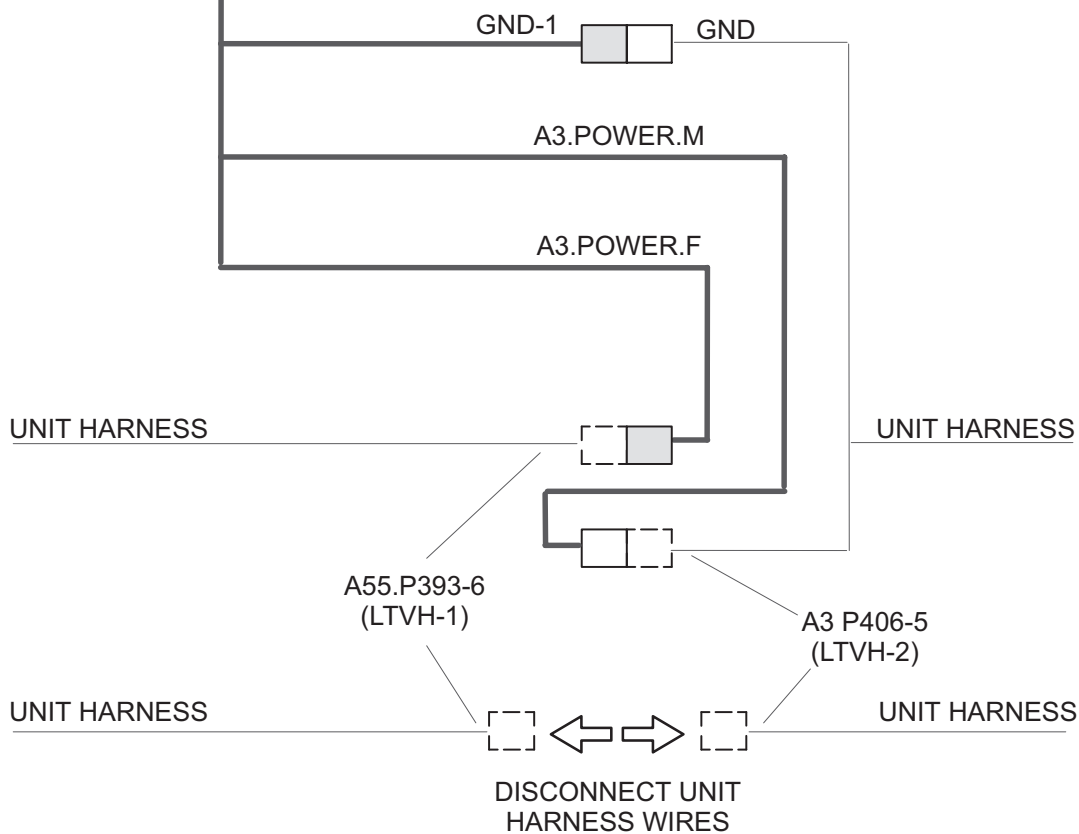

FIGURE 13
- 9 - Route the other end of the P229 harness to the heat section and make wire connections. See figure 13.
**SEE FIGURE 13 FOR